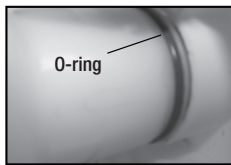
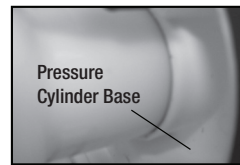

Figure 6
Figure 7
- 5) Apply Petroleum jelly to 2 diaphragm pump o-rings (fig. 5). Screw diaphragm pump assembly into pressure chamber base (fig. 6), making sure the o-ring seats inside the pressure chamber base so that the o-ring does not show anymore (fig. 7)